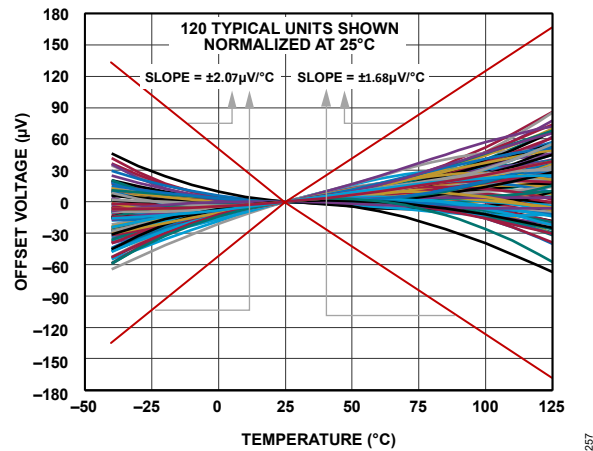

Figure 57. Bowtie Method
Typically, in applications where the AD8412A is used, a calibration is done at $+25^\circ\text{C}$. If a single-point calibration at $+25^\circ\text{C}$ is done, this creates a plot shown in Figure 57. For each part, the slope of the line from -40°C to $+25^\circ\text{C}$ and the slope from $+25^\circ\text{C}$ to $+125^\circ\text{C}$ are calculated. The mean and standard deviation for the slope of all the parts from
-40°C to $+25^{\circ}\text{C}$ are then calculated. The V_{OS} maximum drift of $\pm 2.07\mu\text{V}/^{\circ}\text{C}$ using the bowtie method is then calculated using Equation 2. The mean and standard deviation for the slope of all the parts from $+25^{\circ}\text{C}$ to $+125^{\circ}\text{C}$ is then calculated. The V_{OS} maximum drift of $1.68\mu\text{V}/^{\circ}\text{C}$ using the bowtie method is then calculated using Equation 2. The red lines in Figure 57 represent the worst-case V_{OS} drift slopes using the bowtie method that a user can guarantee through characterization. Calibrating at $+25^{\circ}\text{C}$ allows the maximum V_{OS} over the full temperature range to be reduced to $\sim\pm 168\mu\text{V}$, as opposed to the $\pm 200\mu\text{V}$ listed in the Specifications section as the maximum V_{OS} over temperature (with no calibration).